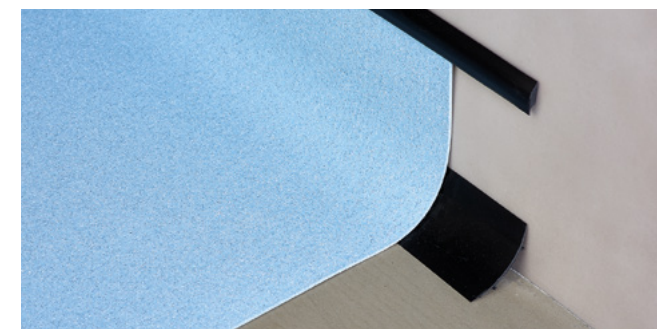

Figure 9 CS Capping strip
3.13.2 Fitting with sit-on capping strip (Type CS) Figure 9